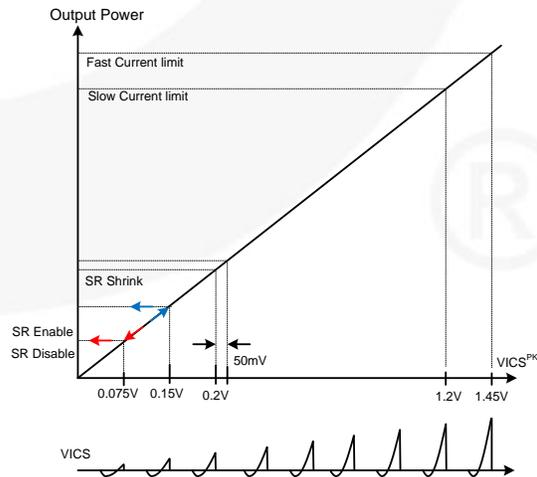
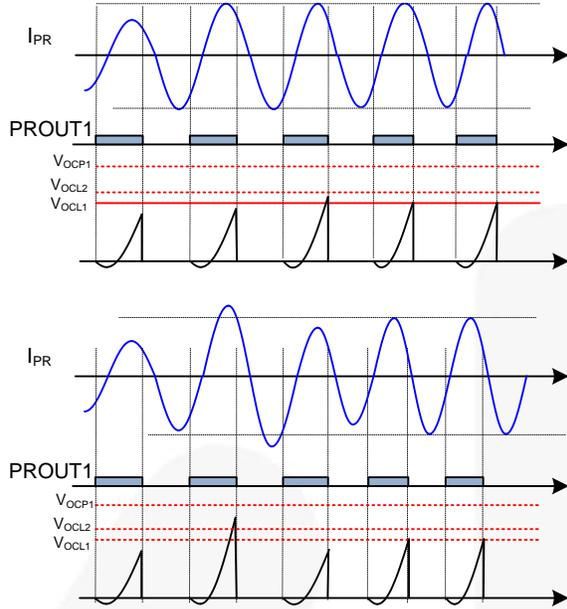
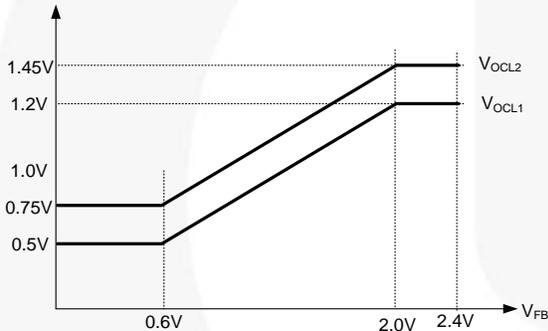

Figure 63. Functions Related to VICS Peak Voltage
Figure 64. Current Limit of the ICS Pin by Frequency Shift (Compensation Cutback)
Figure 65. Current Limit Threshold Modulation as a Function of Feedback Voltage
Since the peak value of the integral of the current sensing voltage (VICS) is proportional to the average input current of the LLC resonant converter, it is used for four main functions, listed and shown in Figure 63.
(1) SR Gate Shrink: To guarantee stable SR operation during light load operation, the SR dead time (both of turn-on and turn-off transitions) is increased resulting in SR gate shrink when V_{ICS} peak value drops below V_{TH1} (0.2 V). The SR dead time is reduced to the programmed value when V_{ICS} peak value rises above 0.25 V.
(2) SR Disable and Enable: During very light-load condition, the SR is disabled when the V_{ICS} peak value is smaller than V_{TH3} (0.075 V). When the V_{ICS} peak value increases above V_{TH2} (0.15 V), the SR is enabled.
(3) Over-Current Limit: The V_{ICS} peak value is also used for input current limit. As can be seen in Figure 63, there exist two different current limits (fast and slow). When the V_{ICS} peak value increases above the slow current limit level (V_{OCL1}) due to a mild overload condition, the internal feedback compensation voltage is slowly reduced to limit the input power. This continues until the V_{ICS} peak value drops below V_{OCL1} . During a more severe over load condition, the V_{ICS} peak value crosses the fast current limit threshold (V_{OCL2}) and the internal feedback compensation voltage is quickly reduced to limit the input power as shown in Figure 64. This continues until the V_{ICS} peak value drops below V_{OCL2} . The current limit threshold on the V_{ICS} peak value also changes as the output voltage sensing signal (V_{FB}) decreases such that output current is limited during overload condition as shown in Figure 65. These limit thresholds change to higher values ($V_{OCL1.BR}$ and $V_{OCL2.BR}$) when the converter operates in deep below resonance operation for a longer holdup time (refer to holdup time boost function).
(4) Over-Current Protection (OCP1): When the V_{ICS} peak value is larger than V_{OCP1} (1.9 V), the over current protection is triggered. 150 ns debounce time is added for over-current protection. These OCP threshold changes to a higher value ($V_{OCP1.BR}$) when the converter operates in deep below resonance operation for a longer holdup time (refer to holdup time boost function).